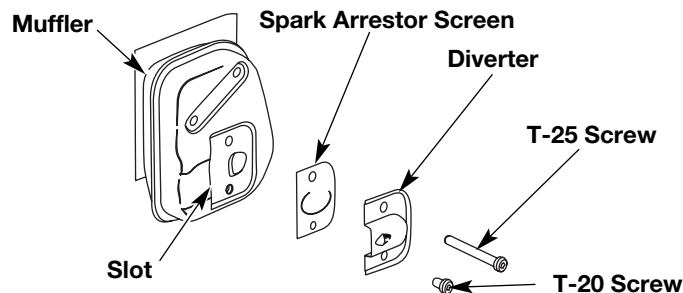

Fig. 32
- With a flat blade screwdriver or Torx T-20 bit and a T-25 bit, remove the screws attaching the spark arrestor cover to the muffler (Fig. 32).